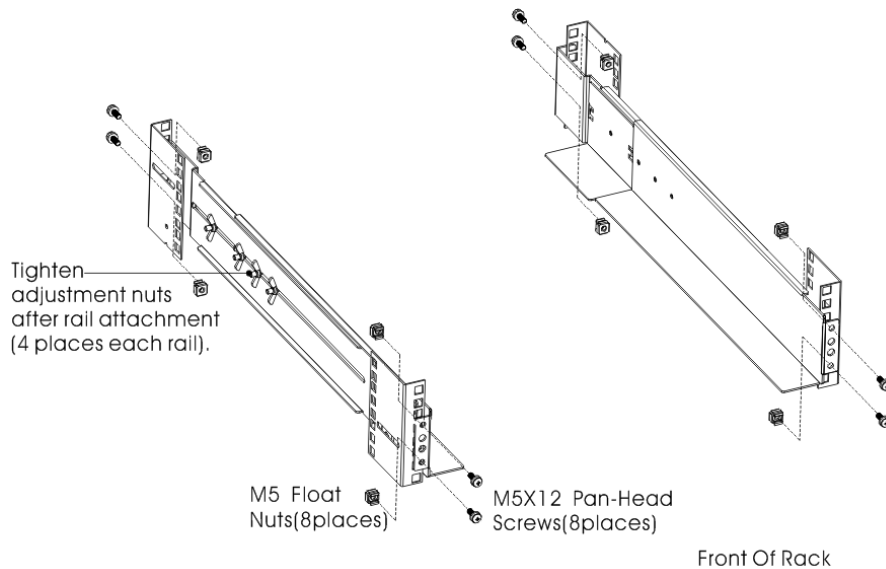

Figure4 Fixing the Rails
1. Assemble the left and right rails to the rear rails as shown in Figure4. Do not tighten the screws.
2. Tighten four M5 Umbrella Nuts in the side of rail assembly (see Figure 4).